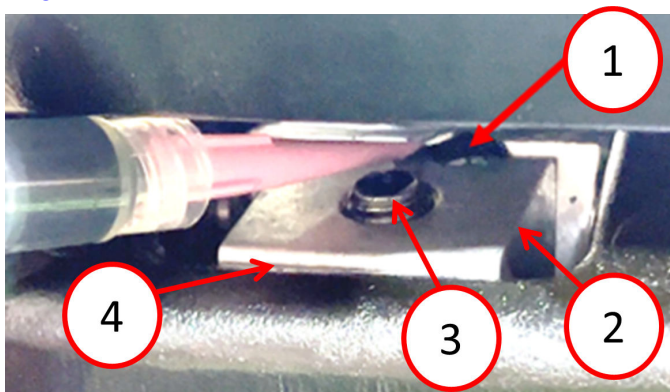

Fig. 3
- 6. Using a syringe, apply one to two drops drop of Loctite 290 to the hinge bolt wedge block edge that is in contact with the motor shaft Fig. 3.
- 7. Using a syringe, apply one to two drops of Loctite 290 to the hinge bolt wedge block edge that is in contact with the inner link casting Fig. 3.